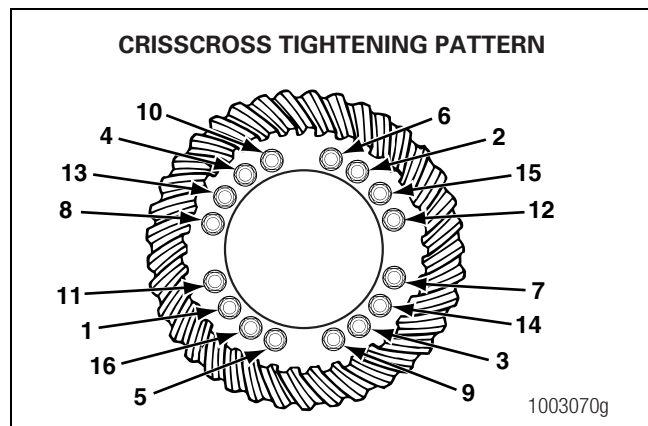

Figure 5.26
- A. Install four capscrews and washers or bolts, nuts and washers into the case halves. The distance between the fasteners must be equal. Tighten the fasteners to the correct torque value in a crisscross pattern opposite each other. Refer to Section 8. Figure 5.26.